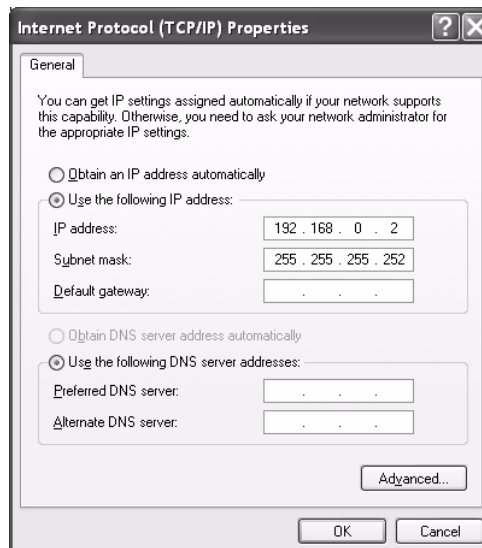

Figure 74: Internet Protocol Properties - Windows XP
6. Click **Properties**. The Internet Protocol Properties dialog appears as shown in Figure 74.